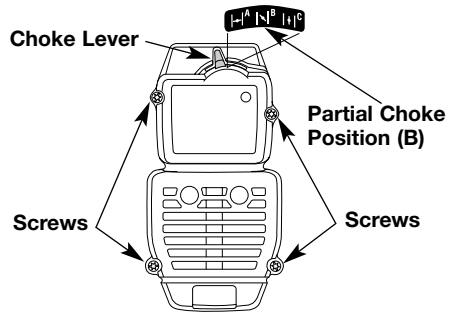

Fig. 21
NOTE: The choke lever must be in the **PARTIAL** choke position (**B**) (Fig. 21) to remove the air filter/muffler cover.
2. Remove the four (4) screws securing the air filter/muffler cover (Fig. 21). Use a flat blade or T20 Torx bit screwdriver.
NOTE: The choke lever must be in the **PARTIAL** choke position (**B**) (Fig. 21, Pg. 17) to install the air filter/muffler cover.